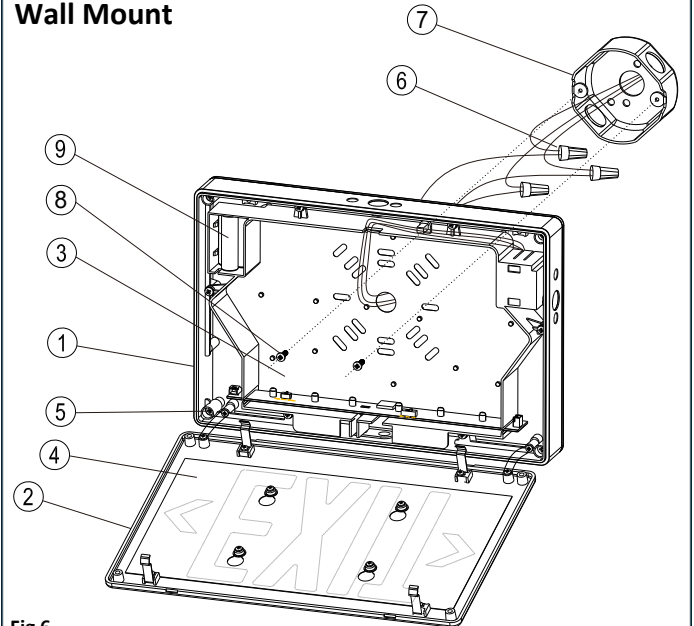

Fig 6
7. Using screws supplied, attach fixture to junction box (Fig 6, 7, and 8).